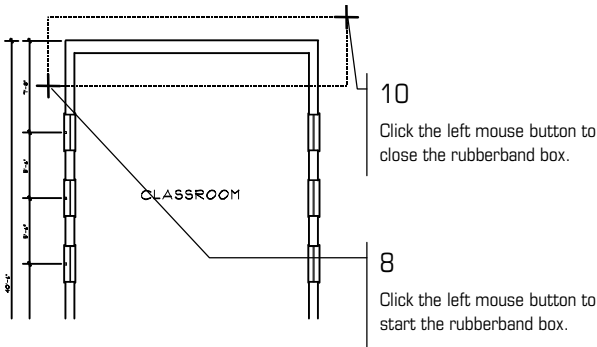

Figure 4.14: Stretching the rear wall
9. Drag the mouse diagonally until the rubber band box encloses the rear wall and part of the left and right walls. (See Figure 4.14)